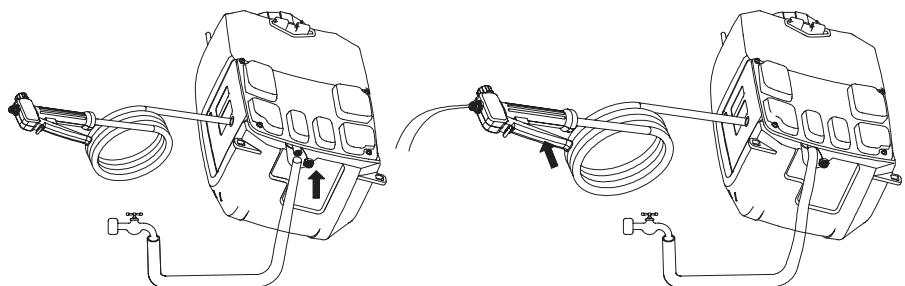

Figure 16
5. Open the water tap slowly and press down the lever at the same time to allow water flush away any debris adhered to the pump. Refer to Figure 16.